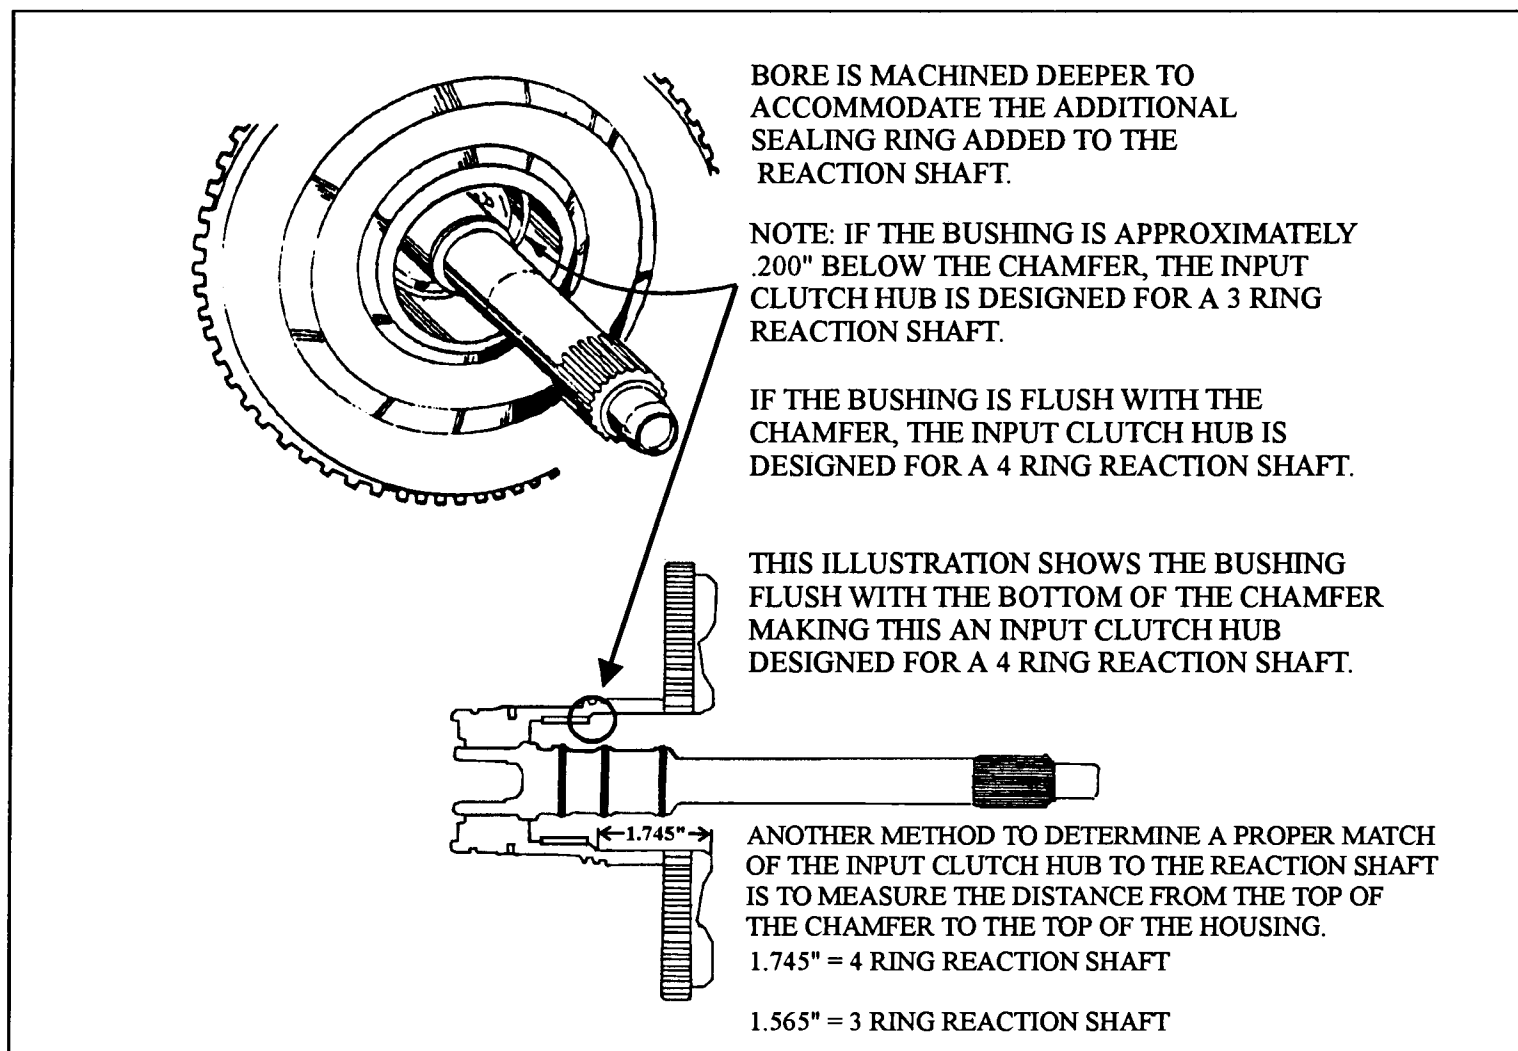
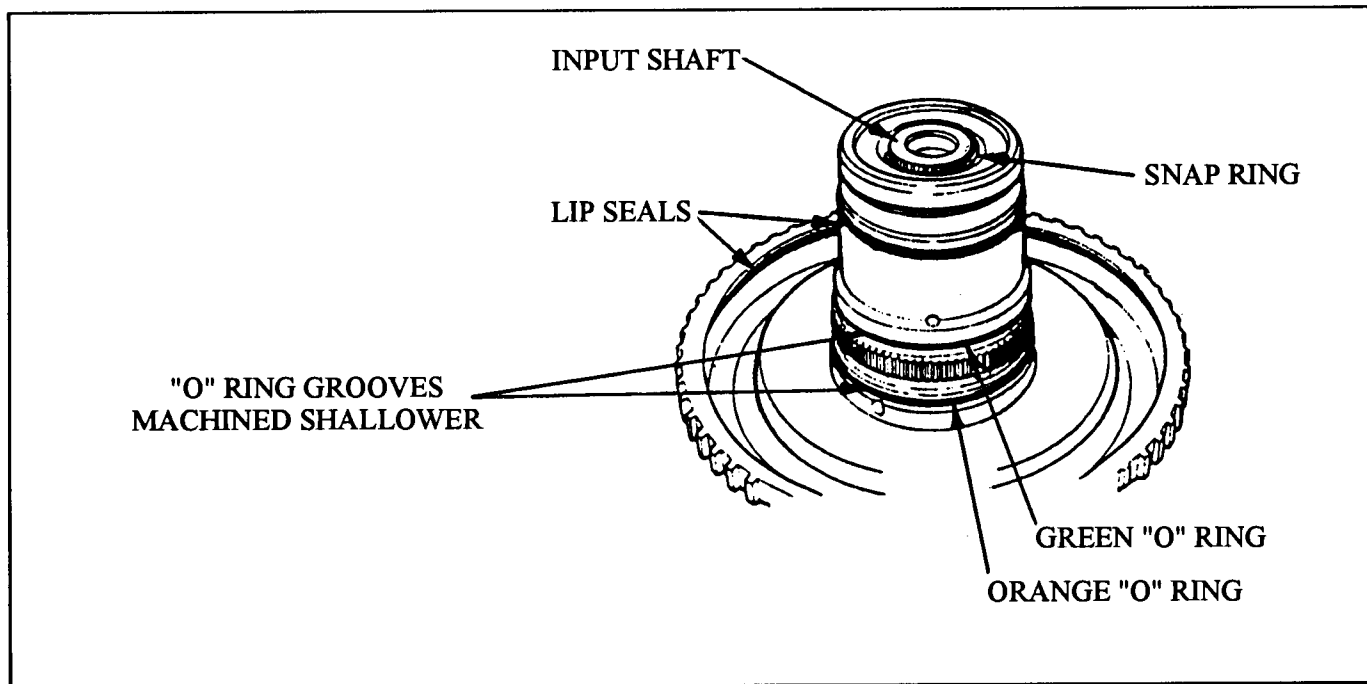

Figure 2
Figure 3
- (2) **INPUT SHAFT/CLUTCH HUB** - The new Input Clutch Hub bore is machined deeper to accommodate the additional length of the reaction shaft, created by the added sealing ring (See Figure 2). The "O" Ring grooves are also cut shallower than the old input clutch hub, which increases the groove diameter, and provides improved compression or "Crush", between the "O" rings and the input clutch retainer. (See Figure 3).
- (3) **INPUT SHAFT/CLUTCH HUB "O" RINGS** - The new "O" Rings are "Teflon Coated" for greater tear resistance during the assembly process. The coatings also identify the locations for the "O" Rings. The orange ring goes to the front, and the green one goes to the rear (See Figure 3). The early "O" rings were black.